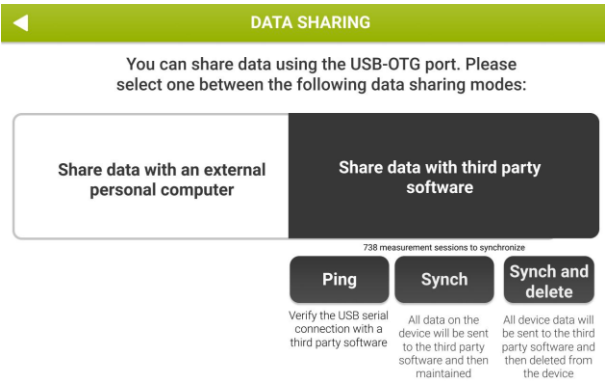

Figure 20 - Options available for sharing data with 3rd party software
3. After reboot, go to the same screen (Admin – Data Sharing – Data Sharing via USB-OTG); three more buttons are now displayed: *Ping*, *Sync* and *Sync and Delete* (Figure 20)